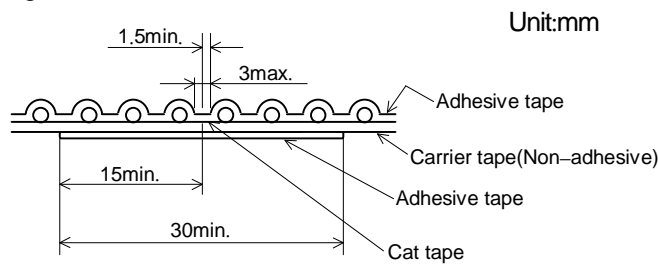

Figure-6
10.3.6 The reinforcement of the tape cutting should be reinforced by a new tape (30mm min.) in 3mm limits and insuring 1 pitch dimension as shown in Figure-6.